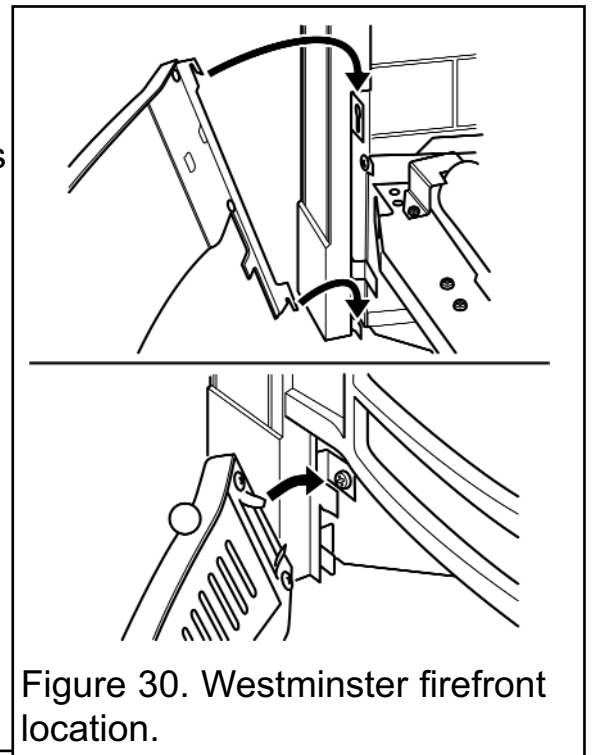

Figure 30. Westminster firefront location.
1. The Westminster firefront hooks onto the fascia at four points. Locate the firefront casting onto the fascia by locating the upper hooks and lower hooks as in figure 30.
2. Locate the lower firefront to the firefront casting as in figure 30.